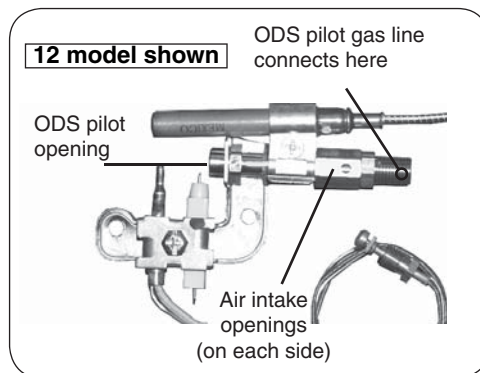

Fig. 40-1
1. Turn the burner system to the **OFF** position and allow it to cool. Inspect the ODS pilot area (see Fig. 40-1) for any visual contamination or debris (usually lint, hair, spider webs, or small insects). Lightly brush off all external surfaces while vacuuming loosened debris from the ODS pilot opening. **Be careful not to brush any foreign material into the ODS pilot opening.**
2. Clean out the air intake openings (see Fig. 40-1) by lightly brushing around the openings while vacuuming.
4. If the ODS pilot flame does not burn as indicated in the instructions, extinguish the ODS pilot by turning the valve to the full **OFF** position. Using a compressed air duster, insert the flexible nozzle through the air intake openings, ensuring that the nozzle is pointed toward the ODS pilot opening (see Fig. 40-1). Blow air through the intake openings to clear out any debris that may be in the system.
5. Relight the ODS pilot and inspect it to be sure it is burning as shown in the instructions. If not, extinguish the ODS pilot and **turn off the gas supply to the burner system.** Using an adjustable or a 1/4" wrench, disconnect the ODS pilot gas line (see Fig. 40-1) from the valve.